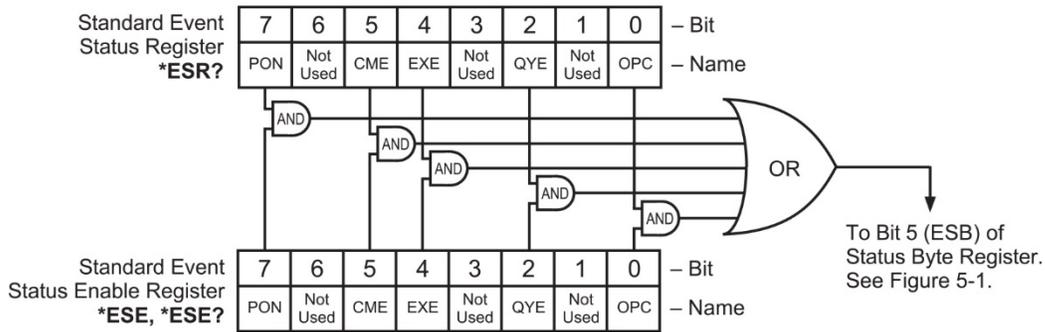

Figure 5-2. Standard Event Status Register
The Standard Event Status Register reports the following interface related instrument events: power on detected, command syntax errors, command execution errors, query errors, operation complete. Any or all of these events may be reported in the standard event summary bit through the enable register, see Figure 5-2. The Standard Event Status Enable command (*ESE) programs the enable register and the query command (*ESE?) reads it. *ESR? reads and clears the Standard Event Status Register. The used bits of the Standard Event Register are described as follows:
The Hardware Error Status Register reports the following instrument hardware error events: DAC processor not responding, output control failure, output over voltage, output over current, low line voltage, temperature fault. Any or all of these events may be reported in the standard event summary bit through the enable register, see Figure 5-2. The Hardware Error Status Register is the first value of the three values associated with the Error Status Registers. The Error Status Enable command (ERSTE) programs the enable register and the query command (ERSTE?) reads it. ERSTR? reads and clears the Error Status Register. The used bits of the Error Status Event Register are described as follows:
The Operational Error Status Register reports the following instrument operational error events: magnet discharging through crowbar, magnet quench detected, remote inhibit detected, temperature high, high line voltage, external current program error, calibration error. Any or all of these events may be reported in the standard event summary bit through the enable register, see Figure 5-2. The Operational Error Status Register is the second value of the three values associated with the Error Status Registers. The Error Status Enable command (ERSTE) programs the enable register and the query command (ERSTE?) reads it. ERSTR? reads and clears the Error Status Register. The used bits of the Error Status Event Register are described as follows:
The PSH Error Status Register reports the following PSH error events: PSH short, PSH open circuit. Any or all of these events may be reported in the standard event summary bit through the enable register, see Figure 5-2. The PSH Error Status Register is the third value of the three values associated with the Error Status Registers. The Error Status Enable command (ERSTE) programs the enable register and the query command (ERSTR?) reads it. ERSTR? reads and clears the Error Status Register. The used bits of the Error Status Event Register are described as follows:
4. Configure the GPIB by selecting the System icon in the Windows 98/95 Control Panel located under Settings on the Start Menu. Configure the GPIB Settings as shown in Figure 5-1. Configure the DEV12 Device Template as shown in Figure 5-2. Be sure to check the Readdress box.